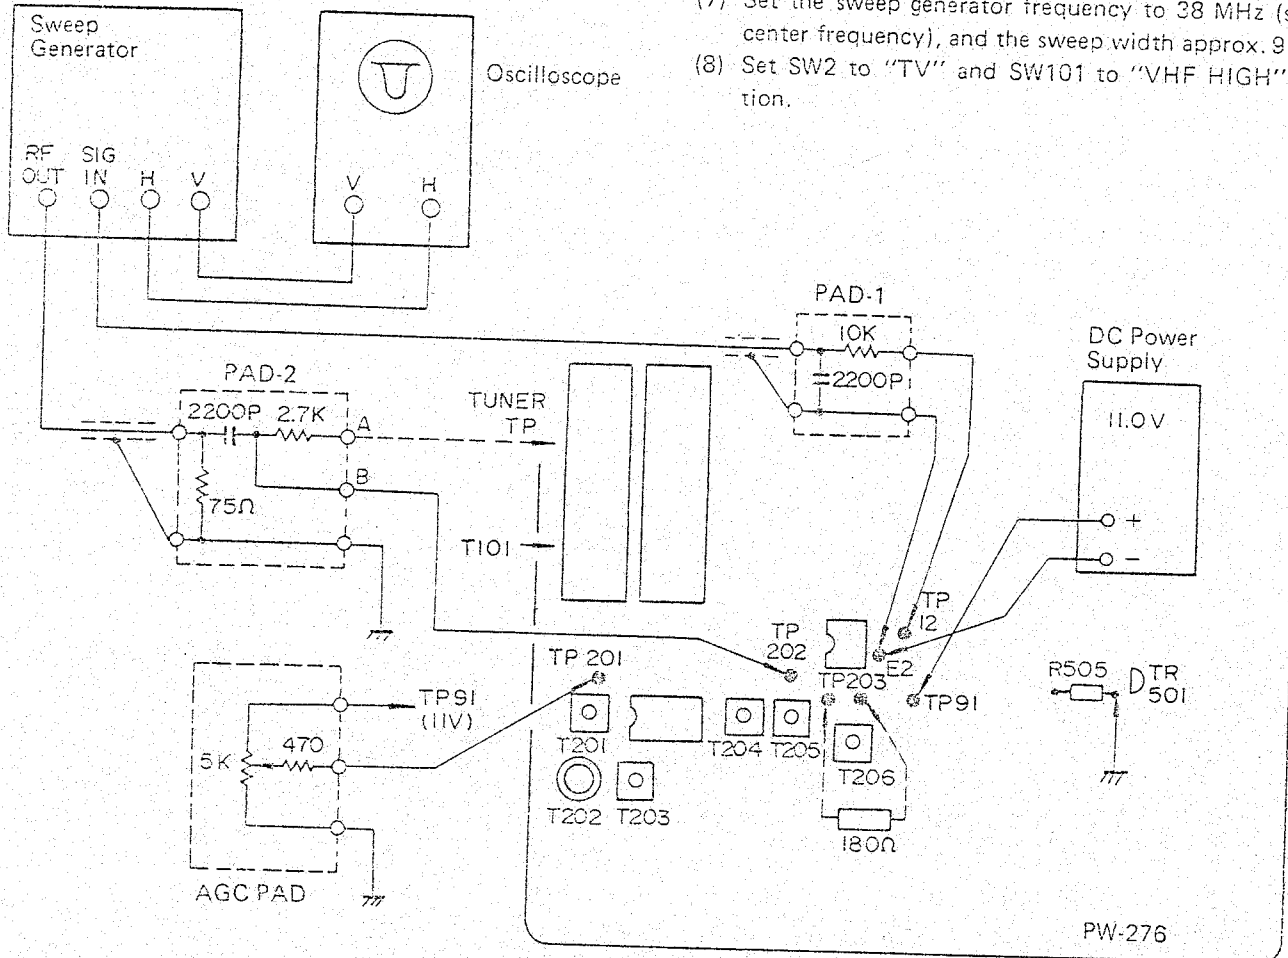

Fig. 1
- (1) Instruments will be connected as shown Fig. 1.
- (2) Connect the base of TR501 to earth.
- (3) Connect AGC PAD to TP201.
- (4) Supply +B (11 V) to TP91.
- (5) Connect oscilloscope through PAD-1 to TP12.
- (6) Adjust the vertical sensitivity of oscilloscope to 0.2 V/cm.
- (7) Set the sweep generator frequency to 38 MHz (sweep center frequency), and the sweep width approx. 9 MHz.
- (8) Set SW2 to "TV" and SW101 to "VHF HIGH" position.